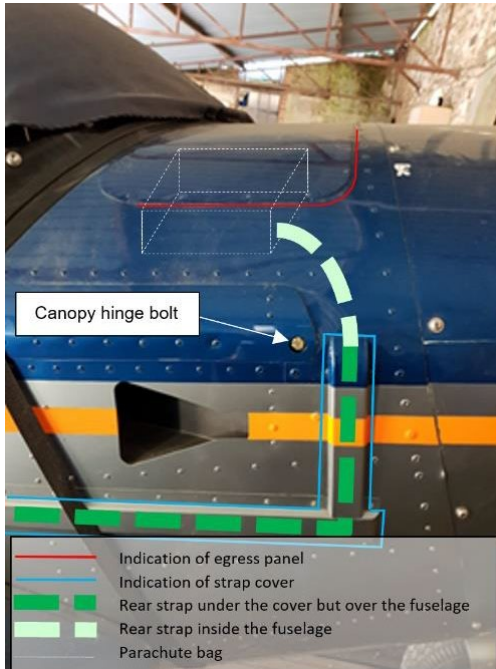

Fig. 1: Incorrect installation
2.- If not (like observed in Figure 1) or if any doubt, contact either the airplane manufacturer\*, or the parachute system manufacturer or any specialist in emergency parachute system installation for a safe re-installation of the rear harness;
Fig. 1 shows the abnormal rear harness routing inside the front parachute compartment. The rear harness comes into the parachute compartment through a hole cut in the riveted fuselage skin at the level of the canopy hinge bolt (an access hole at that location should only be made and used in the case that the parachute assembly is installed at the back and the strap is anchored at the front structure via that access hole). This installation holds the rear strap under the fuselage skin of the parachute compartment, leading to a strap partially captured in the front fuselage structure and thus not able to extend above the cockpit when the system is activated. This incorrect installation can easily be identified on a Zenair Zodiac ultralight airplane when the fuselage shows a strap cover that ends its installation at the level of the canopy hinge bolt without reaching the lower corner of the egress panel.